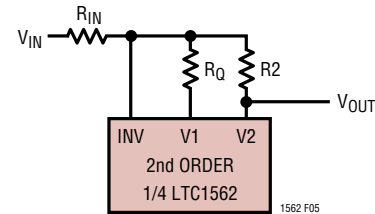
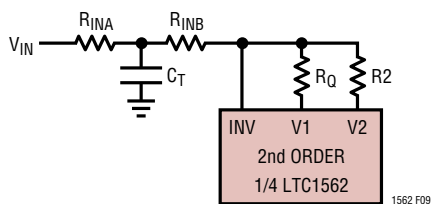

Figure 5. Basic Lowpass Configuration
Figure 9. Lowpass “T” Input Circuit
When Z_{IN} of Figure 3 is a resistor of value R_{IN}, a standard 2nd order lowpass transfer function results from V_{IN} to V₂ (Figure 5):
- Lowpass response (resistor input, V2 output, Figure 5) with $f_0 < 100\text{kHz}$
The virtual ground INV input in the Operational Filter block provides a means for adding an “extra” lowpass pole to any resistor-input application (such as the basic lowpass, Figure 5, or bandpass, Figure 6a). The resistor that would otherwise form Z_{IN} is split into two parts and a capacitor to ground added, forming an R-C-R “T” network (Figure 9). This adds an extra, independent real pole at a frequency: